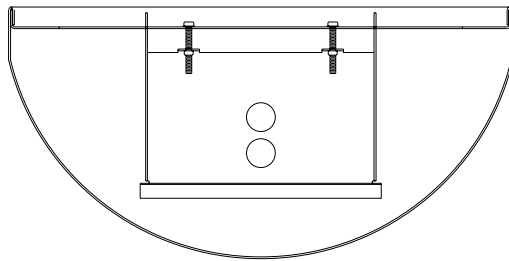

Figure 1
1. Remove luminaire and mounting plate from carton. Place luminaire on cardboard or towels to protect finish. Position luminaire so clamp screws are facing up. See Figure 1.
2. Loosen 2 clamp screws on back of luminaire, so no screw threads are showing past PEM nuts. See Figures 1 & 1A. Set mounting plate and gasket aside. **Note: Do not remove screws or clamp!**